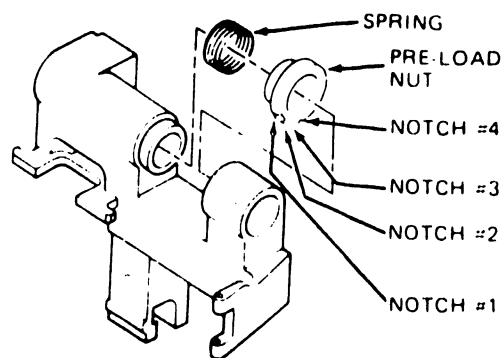

Figure 7-2 Pre-Load Setting
- i. When installing the carriage, set the pre-load nut in the #3 notch (Ref. Figure 7-2).